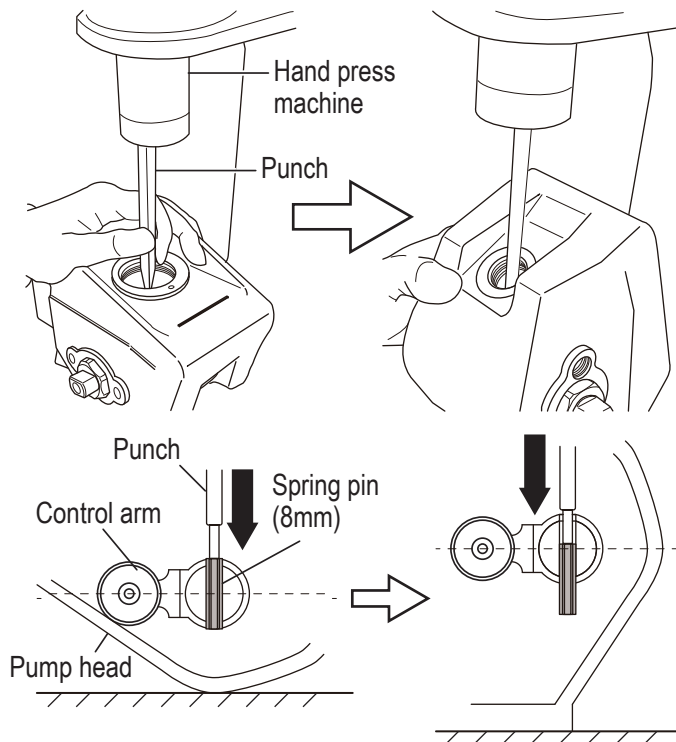

Fig.25
- d. Fix the hand pump in horizontal. Insert the punch with hand press from hole of plug and remove the half of two spring pins (8mm). Then, fix the hand pump in vertical. Insert the punch with hand press from hole of breather plug and remove the other half of two spring pins (8mm). (Fig. 25)